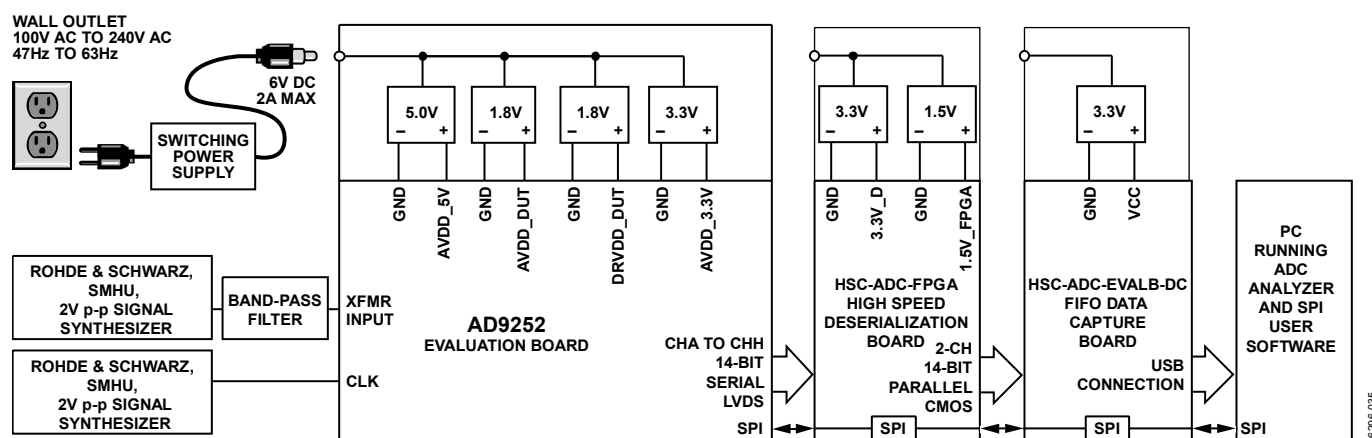
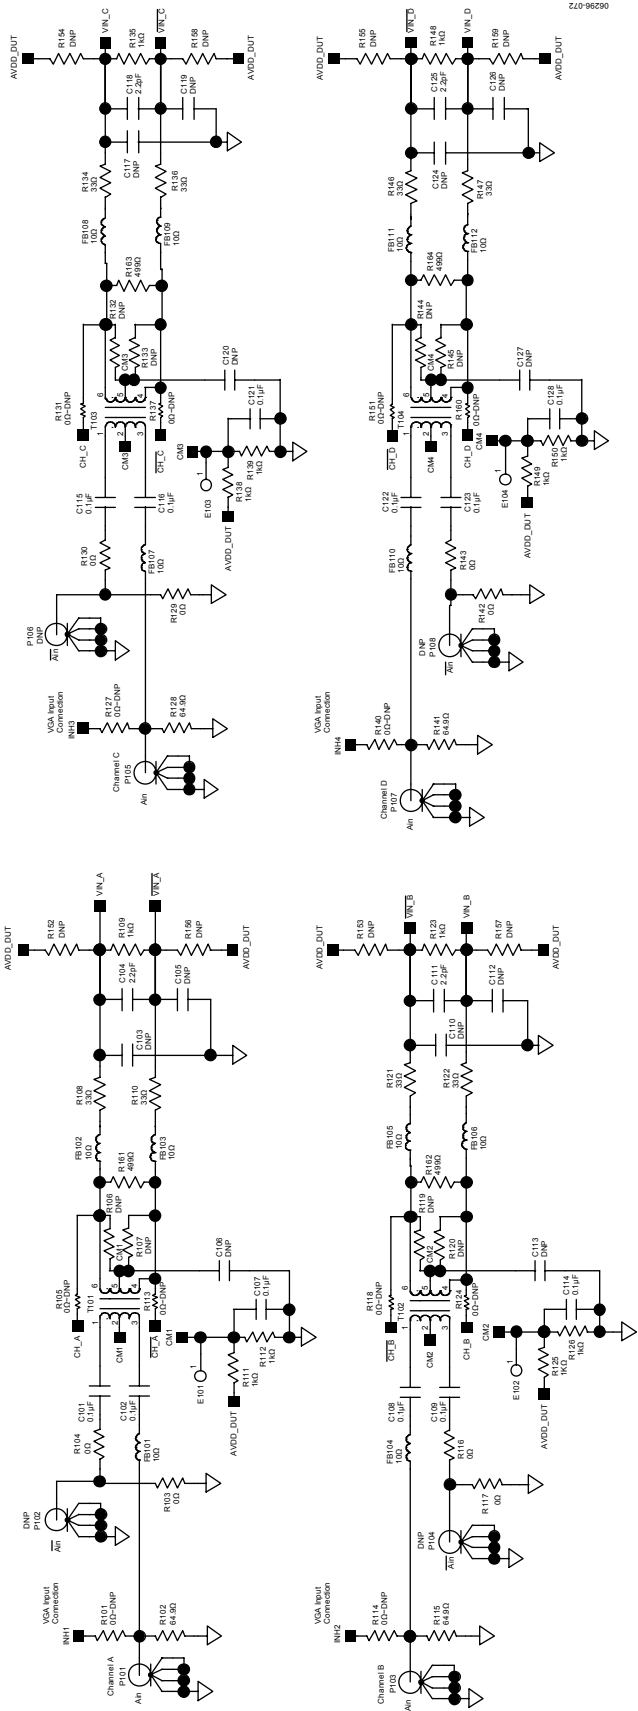
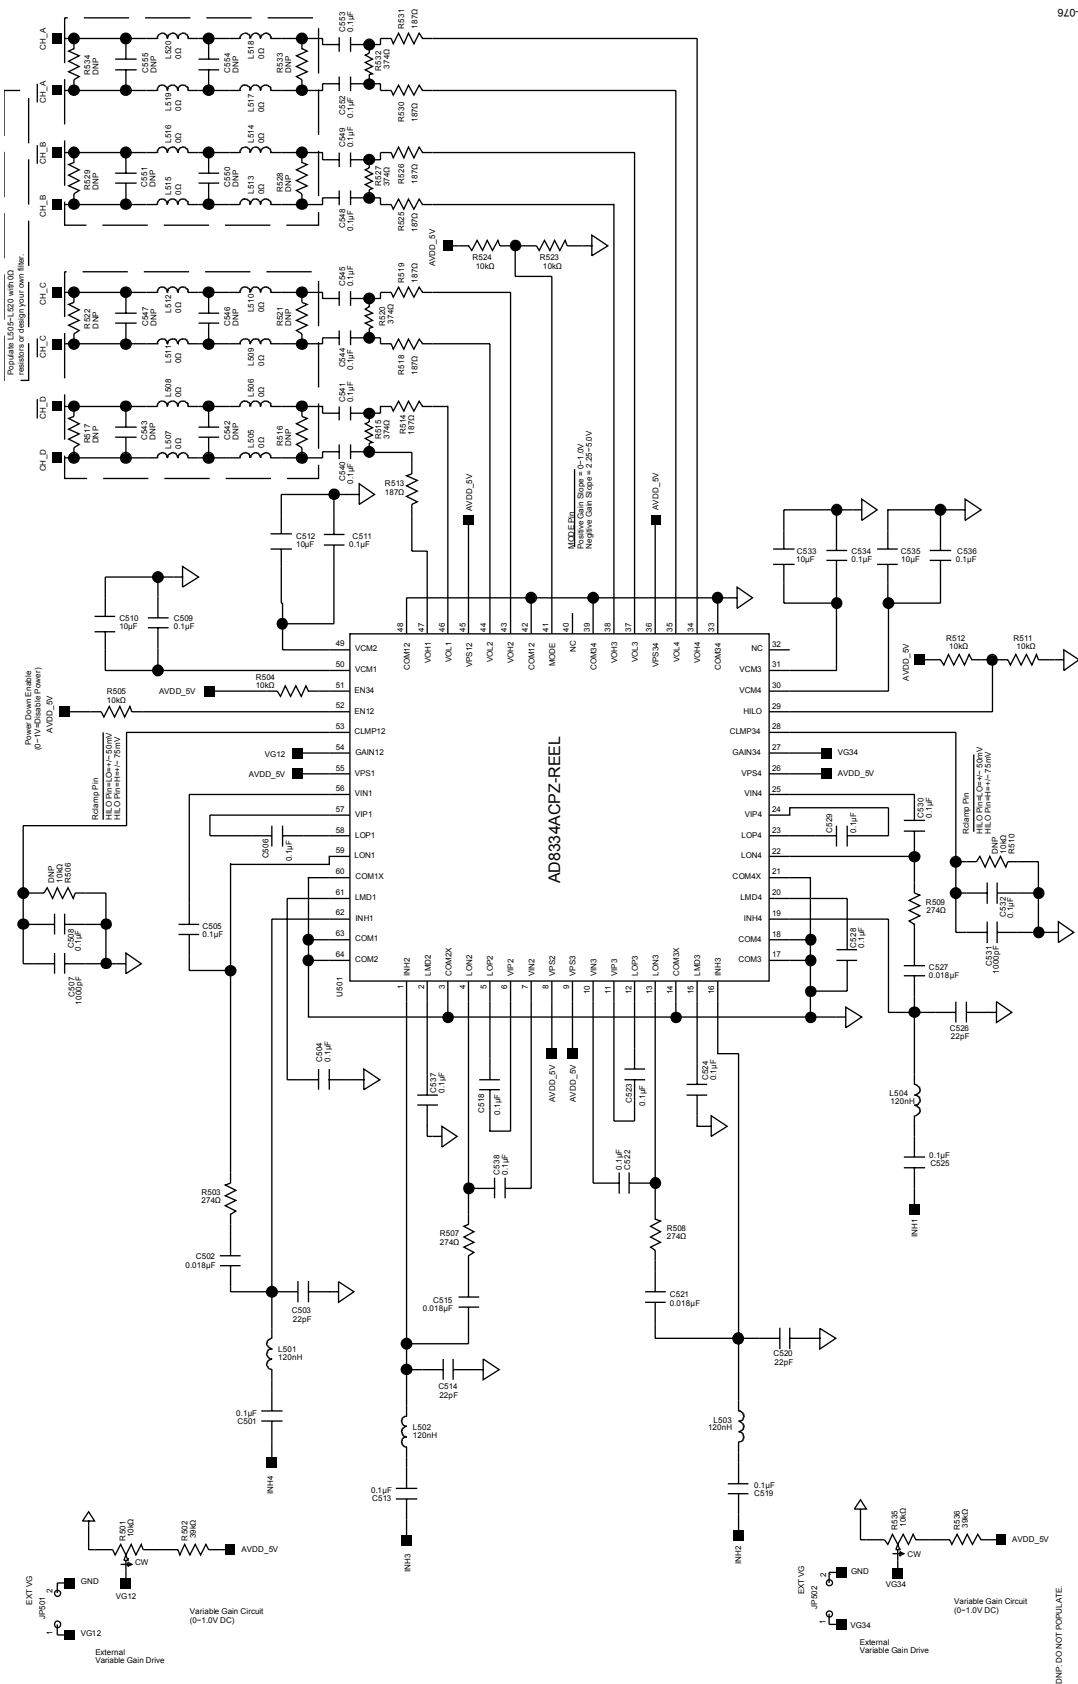
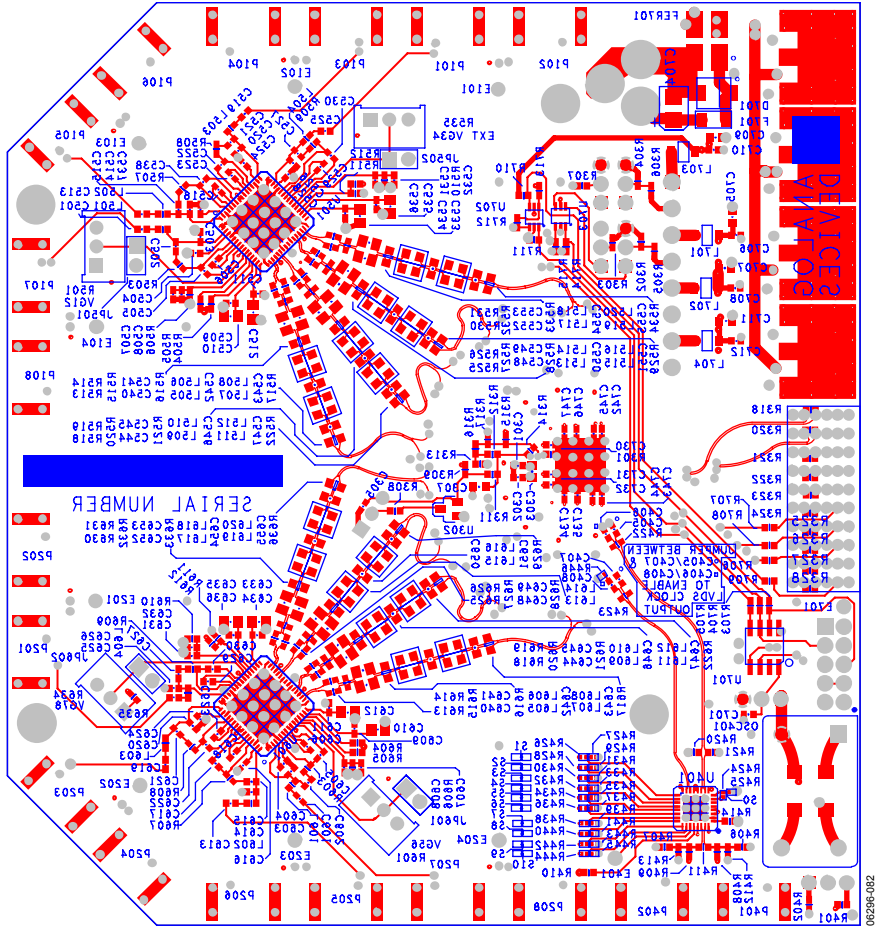

Figure 60. Evaluation Board Connection
Figure 62. Evaluation Board Schematic, DUT Analog Inputs
Figure 66. Evaluation Board Schematic, Optional DUT Analog Input Drive
Figure 72. Evaluation Board Layout, Secondary Side (Mirrored Image)
The AD9252 evaluation board provides all of the support circuitry required to operate the ADC in its various modes and configurations. The converter can be driven differentially through a transformer (default) or through the AD8334 driver. The ADC can also be driven in a single-ended fashion. Separate power pins are provided to isolate the DUT from the AD8334 drive circuitry. Each input configuration can be selected by proper connection of various jumpers (see Figure 62 to Figure 66). Figure 60 shows the typical bench characterization setup used to evaluate the ac performance of the AD9252. It is critical that the signal sources used for the analog input and clock have very low phase noise (<1 ps rms jitter) to realize the optimum performance of the converter. Proper filtering of the analog input signal to remove harmonics and lower the integrated or broadband noise at the input is also necessary to achieve the specified noise performance.
See Figure 62 to Figure 72 for the complete schematics and layout diagrams that demonstrate the routing and grounding techniques that should be applied at the system level.
- **D+, D-:** If an alternative data capture method to the setup described in Figure 62 is used, optional receiver terminations, R318, R320 to R328, can be installed next to the high speed backplane connector.